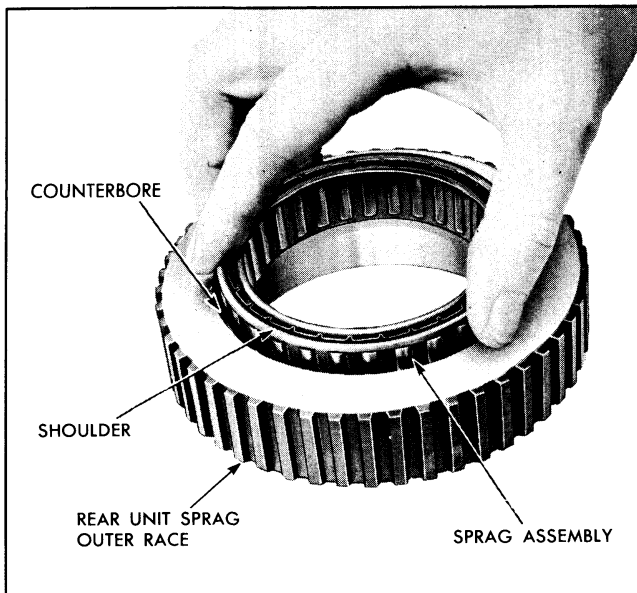

Fig. 7D-93 Installing Rear Unit Sprag in Outer Race
f. Install release spring retainer snap ring (Fig. 7D-92). Remove compressor tools.